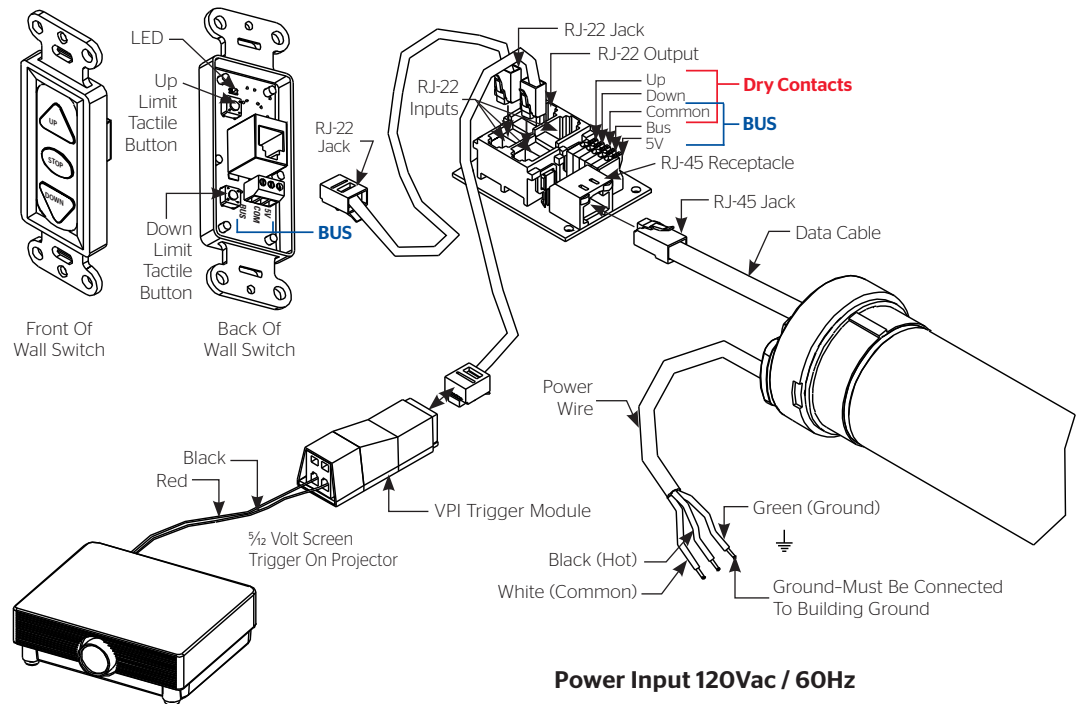
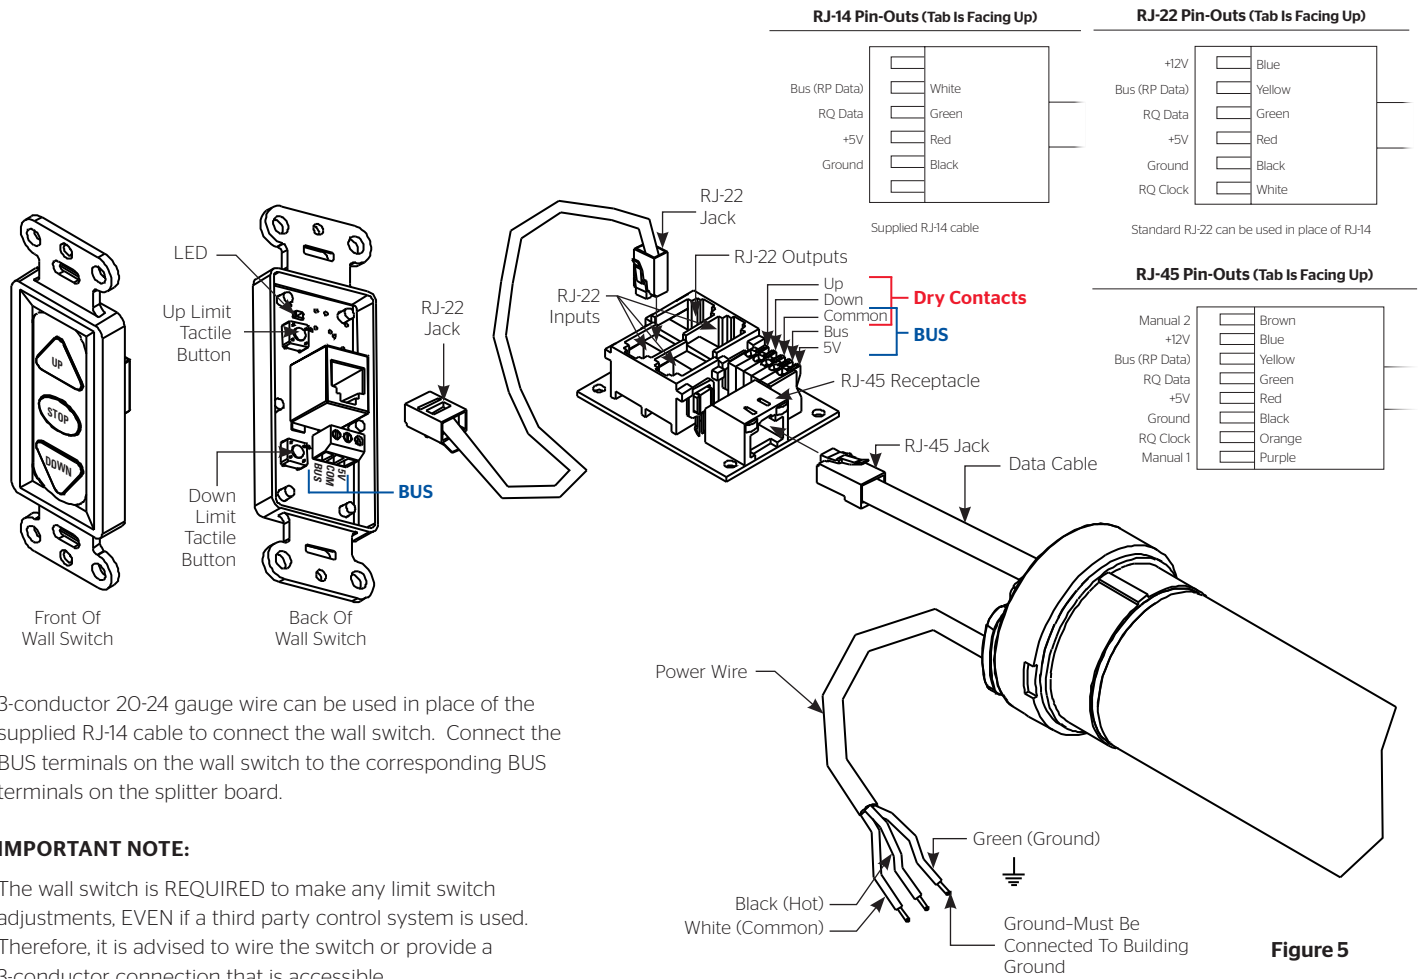

Figure 4
Figure 5
2. Locate the two tactile buttons on the back of the switch. They are square silver with black round buttons. See Figure 4 (VPI) or Figure 5 (LVC) for diagram.